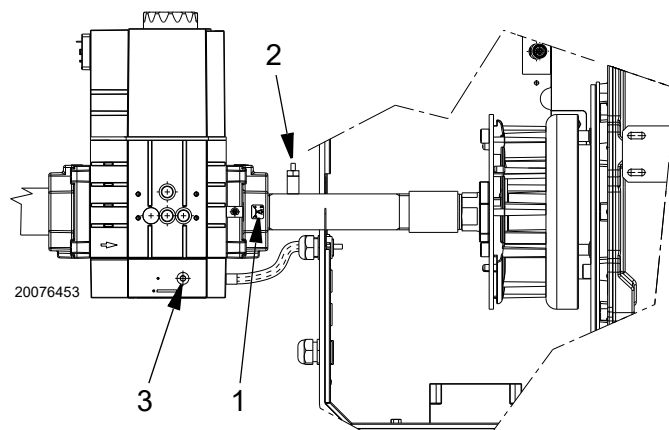

Fig. 166
Turn the screw V1 of the gas valve lightly towards the “+” sign (Fig. 166 on page 53).
- Turn the screw V1 towards the “+” sign (Fig. 166 on page 53).
- Check the appearance of the flame, if possible, or the value of the CO and CO₂ to understand whether the burner has been sufficiently calibrated (first maximum calibration). If necessary use the screw V2 of the gas valve (turn towards the “+” sign to increase the gas, towards the “-” sign to decrease the gas) (Fig. 166 on page 53).
- Check the appearance of the flame, if possible, or the value of the CO and CO₂ to understand whether the burner has been sufficiently calibrated (first maximum calibration). If necessary use the screw V1 of the gas valve (turn towards the "+" sign to increase the gas, towards the "-" sign to decrease the gas) (Fig. 166 on page 53).
- to increase the gas delivery and the CO₂: turn the V1 screw towards the “+” sign (Fig. 166);
- to reduce the gas delivery and the CO₂: turn the V1 screw towards the “-” sign (Fig. 166);.
Key (Fig. 166)